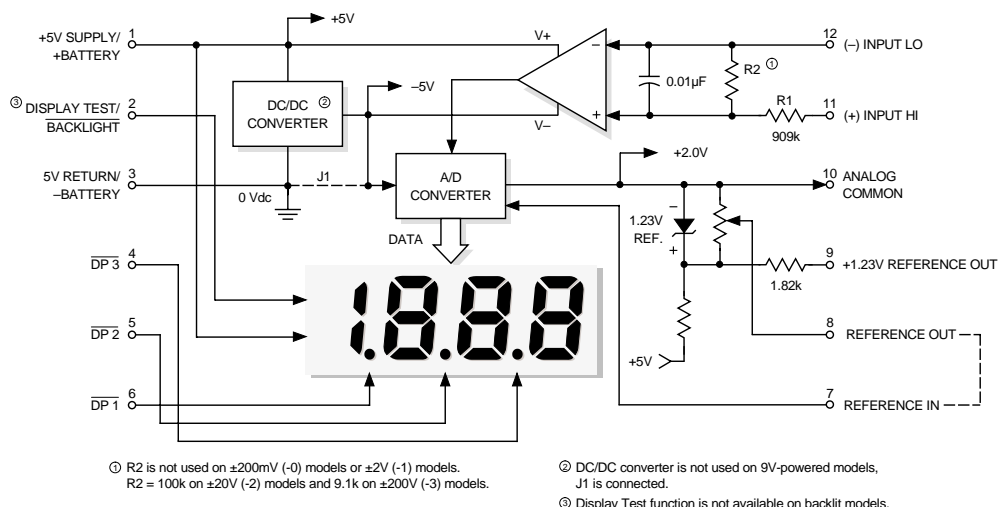

Figure 1. DMS-30LCD Series Simplified Schematic
- ① Applies for transient or continuous overvoltages applied to (+) INPUT HI (pin 11) with (-) INPUT LO (pin 12) properly connected. Pin 12 is not overvoltage protected (see Figure 1). Voltages applied to pin 12 should not exceed the supply voltage.
- ② Listed spec applies to 5V-powered models only. For 9V-powered models, both (-) INPUT LO (pin 12) and (+) INPUT HIGH (pin 11) must always be at least 1.5V above -BATTERY (pin 3) and at least 1.5V below +BATTERY (pin 1).
- ③ See Technical Notes.